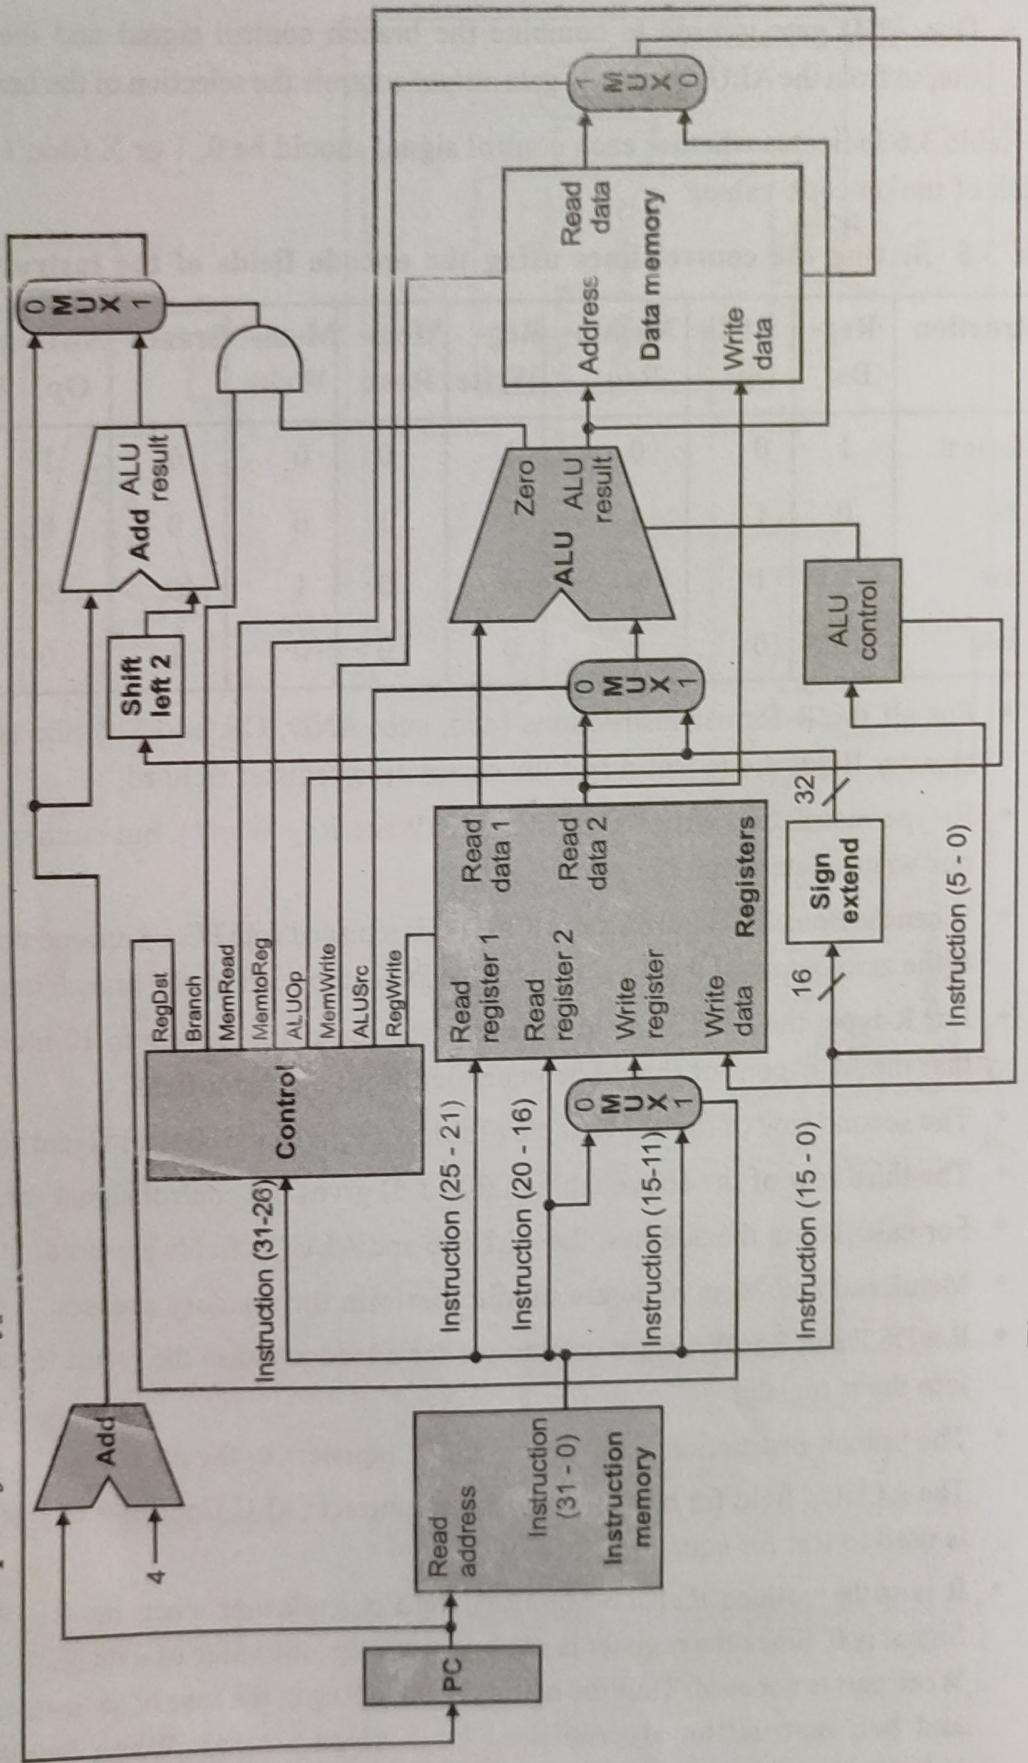

Figure 3.11 Datapath in operation for an R-type instruction
**For Note :** The control lines, data path units and connections that are active – are highlighted in Figure 3.11
Figure 3.11 shows the operation in the datapath for the R-type instructions (add, \$t1, \$t2, \$t3). The execution of each instruction can be divided into four sequential steps. The steps are: